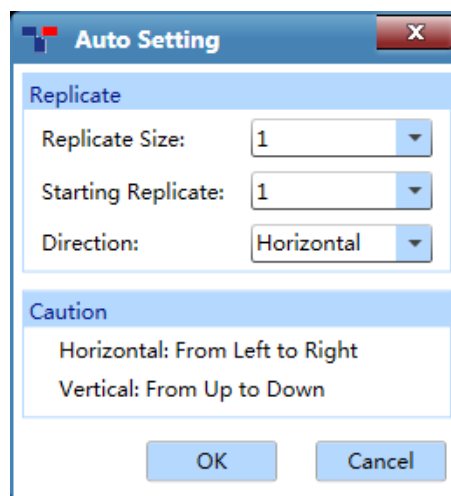

Figure D-6.6 Sample Setting interface - Auto Setting
- The application software can automatically divide multiple replicate groups according to user' requirements. Please first select all wells of same samples in the sample setting area and click < **Auto Setting** >; then the auto setting dialog box will pop up automatically, as shown in figure D-6.6.